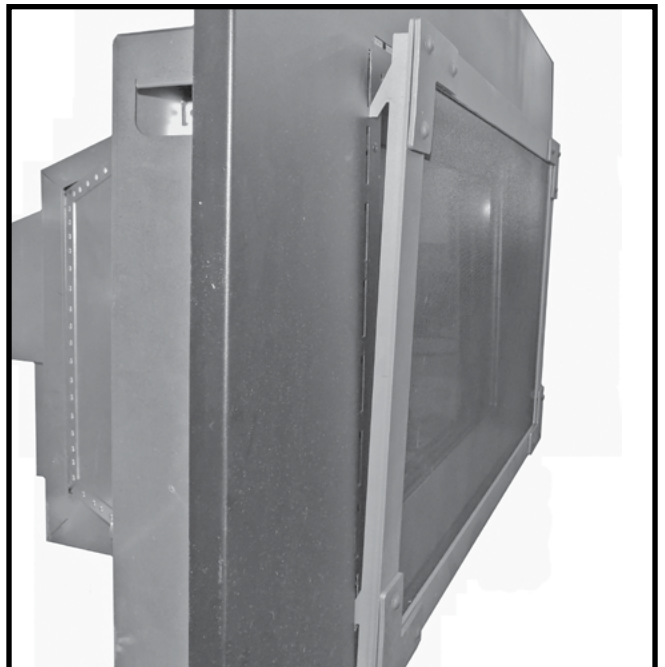

Figure 122: Mounting the decorative front.
3. Install the Standard front by inserting its four hooks into the corresponding slots on the backing plate (Figure 122).